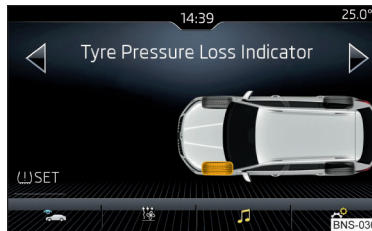

Fig. 313
- ▶ Tap the function surface  **SET** » Fig. 313.
When a warning light  in the instrument cluster appears, the affected tyre can be displayed on the infotainment » Fig. 313.